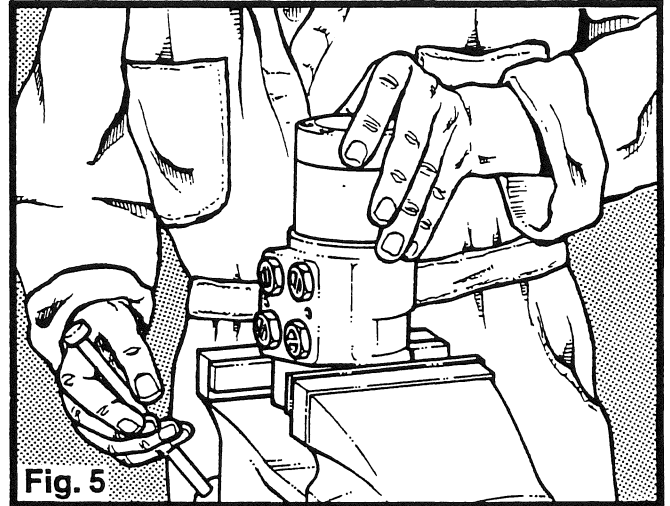

Fig. 5
1. Place the control section of the steering unit into a vise with the metering end up. Tighten the vise only enough to hold the unit in place. (Fig. 5)